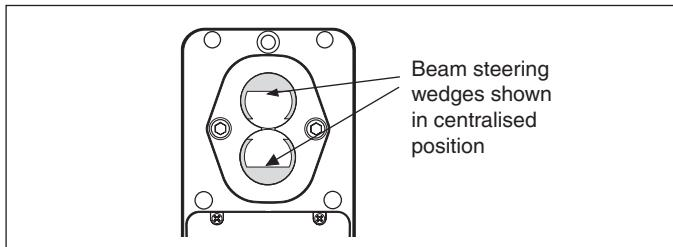

Figure 44 – Steering wedges in centralised position
1. Before inserting the barrel into the detector, centralise all four beam steers so that the steering wedges appear as shown in Figure 44. Move the measurement mirror as close to the detector as possible.